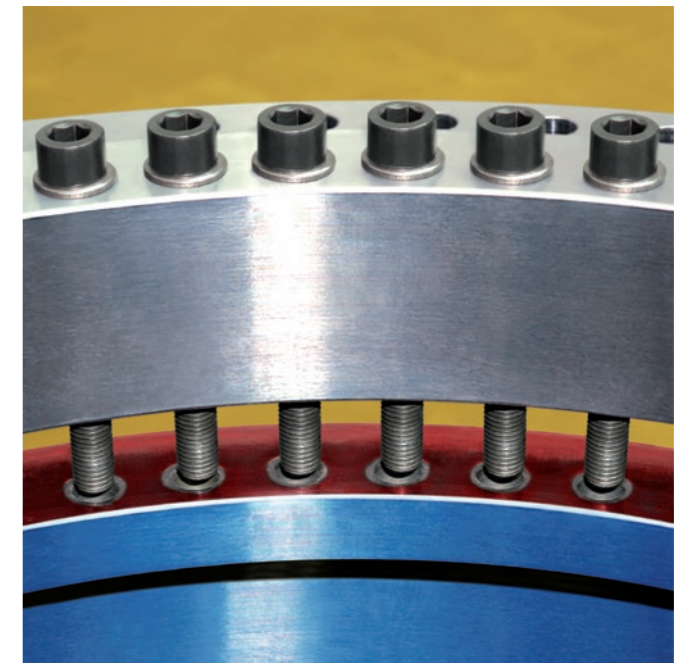

Figure 17: Through holes and tapped holes have to be protected against Loctite
6. Through holes and tapped holes have to be protected against Loctite (Figure 17).